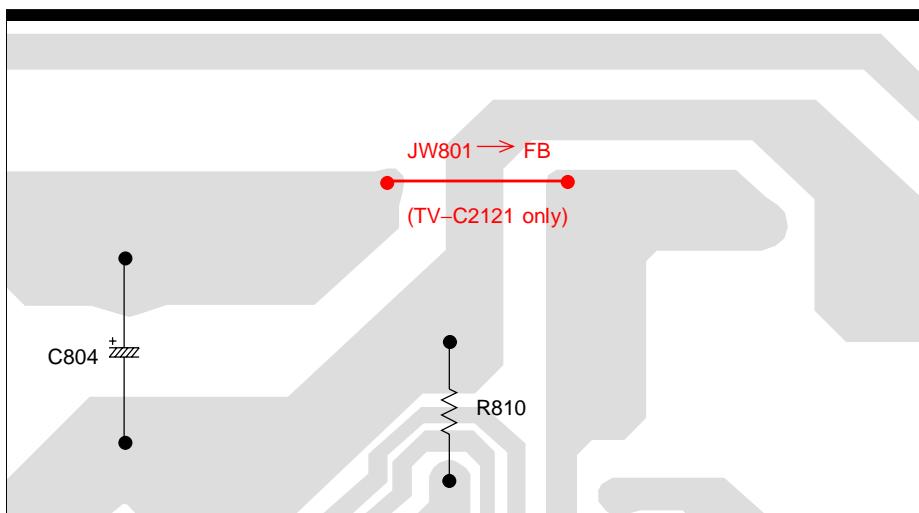

fig.4
3. Replace the JW801 at the primary stage of the power circuit to the ferrite beading.(see fig.4)